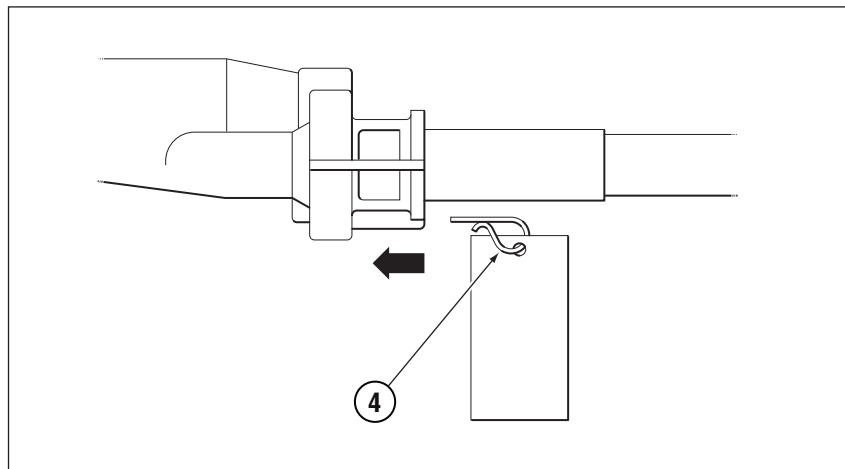

Figure 3.
STEP 3. Replace the pin as shown in Figure 3, making sure that it is fully seated. **DO NOT REMOVE TAG FROM PIN.** This tag must be left in place for vessel safety during future steering maintenance.